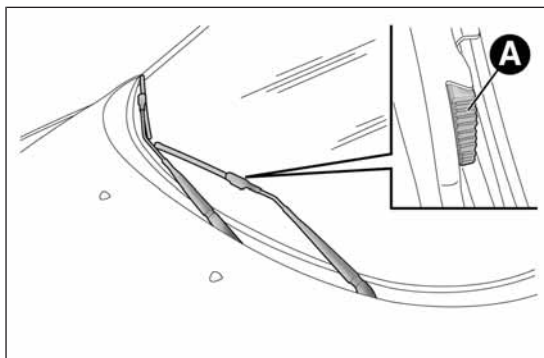

fig. 167
- ☐ raise the wiper arm, press tab A fig. 167 of the attachment spring and remove the blade from the arm;